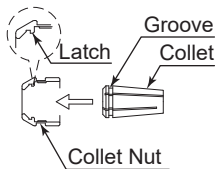

Fig. 4
- ① Hold the collet nut in one hand, and install the collet. (Fig. 4)